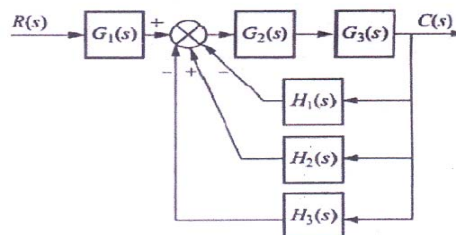

Figure Q 8 (b)
b) Figure Q.8 (b) shows a block diagram. Simplify and find the transfer function: **[8]**